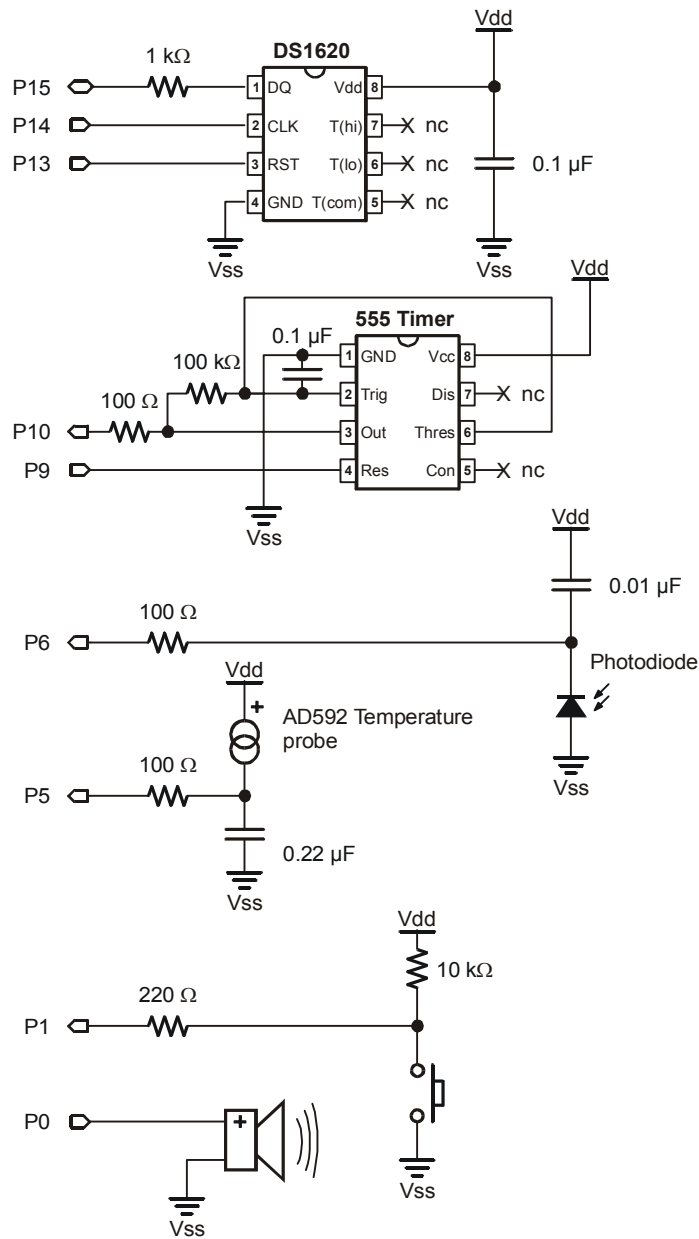

Figure 5-3
- ✓ Install the 555 timer IC circuit shown in the schematic (Figure 5-3).